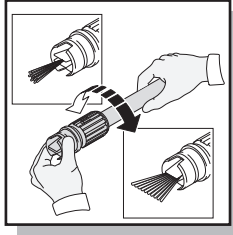

Fig.18
- Release safety lock on gun while aiming gun away from yourself and others by pressing the safety button from left to right, then pull or squeeze the trigger. Fig 15 When using the adjustable spray lance, the spray pattern and intensity can be controlled according to power of water needed for each task. Twist the spray nozzle at the far end of the lance. Fig 18. Make sure not to aim the gun at bare feet, fingers, hands or any other part of your body since it has enough power to blast away skin or put out an eye. It also has the power to damage paint, glass, or other materials if the gun is too close to the surface or if the spray is concentrated into its smallest stream.